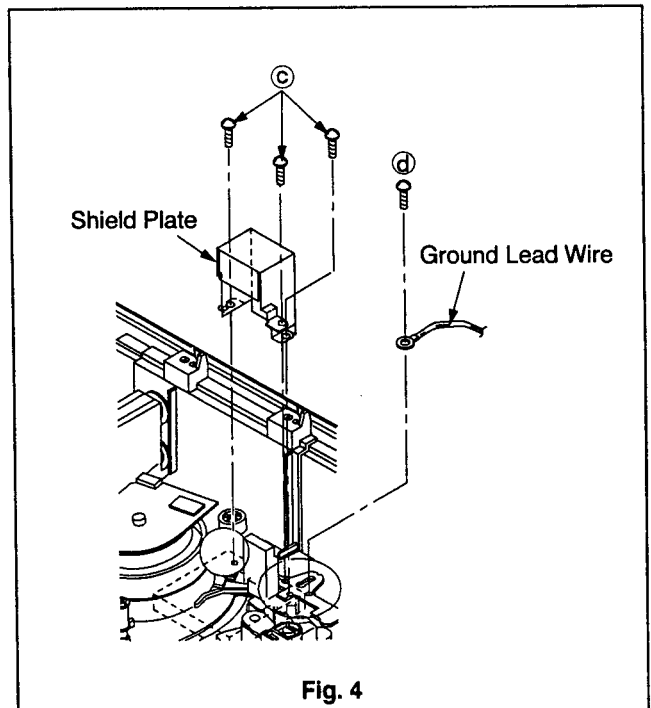

Fig. 4
4. Remove the three screws (c) shown in Fig. 4 and raise the Shield Plate upward to remove it.
5. Remove the one screw (d) shown in Fig. 4 and remove the Ground Lead Wire.